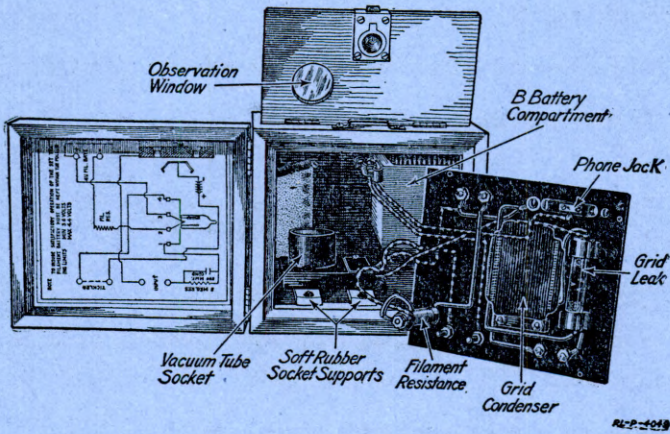
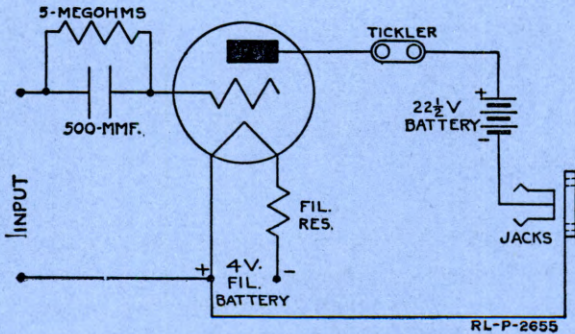

Fig. 56.—Panel of DT-3-A detector removed to show interior parts.
Fig. 57.—Schematic diagram of connections in the DT-3-A detector.
1. Remove the four screws from the corners of the panel of the DT-3-A detector. Lift out the panel, being careful not to break the flexible wires attached to it. (See Fig. 56.) Trace the wiring and compare it with the diagram in the lid of the box and also with the schematic diagram in Fig. 57.
1. Proceed as in former Unit Operations. During the preliminary meeting of the class discuss briefly the vacuum tube. Make a complete drawing of the vacuum tube on the blackboard, labeling the various parts. Show the class a DT-3-A detector unit. Remove the panel from the box and show the class the internal construction of the unit. Draw a picture of each part on the blackboard and label it properly. Draw a circuit diagram of the connections as shown in Fig. 57 and explain the use of the symbols representing each part in the unit.